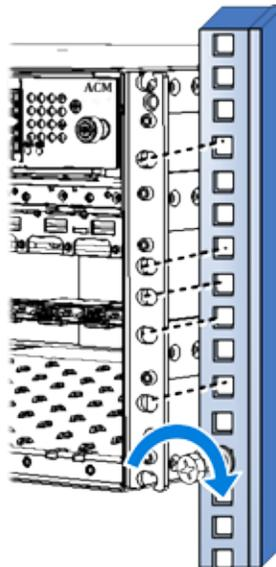

Figure 5-26. Installing Chassis in Rack
3. Referring to Figure 5-26 secure the units' rack ears to the rack frame as follows: